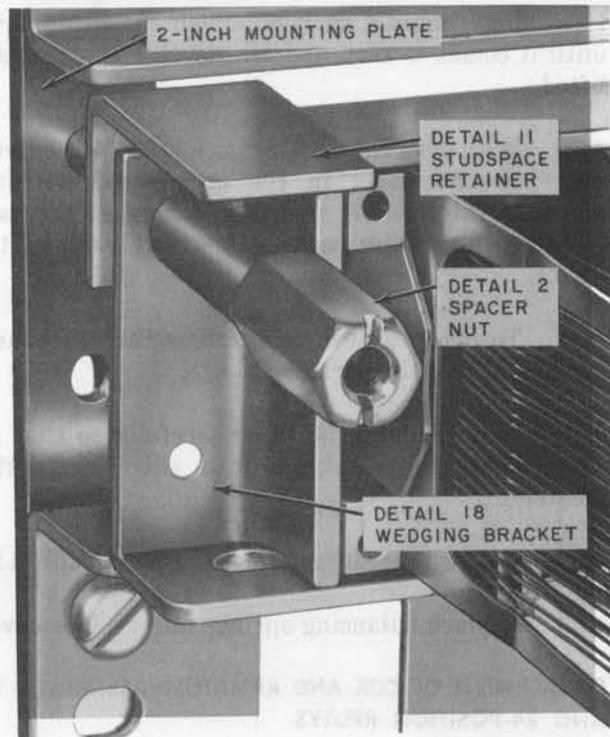

Fig. 14—Detail 18 Wedging Bracket in Place Over Left Detail 4 Stud
- (g) If the relay being repaired is at the left end of the mounting plate, place the detail 18 wedging bracket over the left detail stud as shown in Fig. 14. The wedging bracket is not required for relays in other mounting positions.